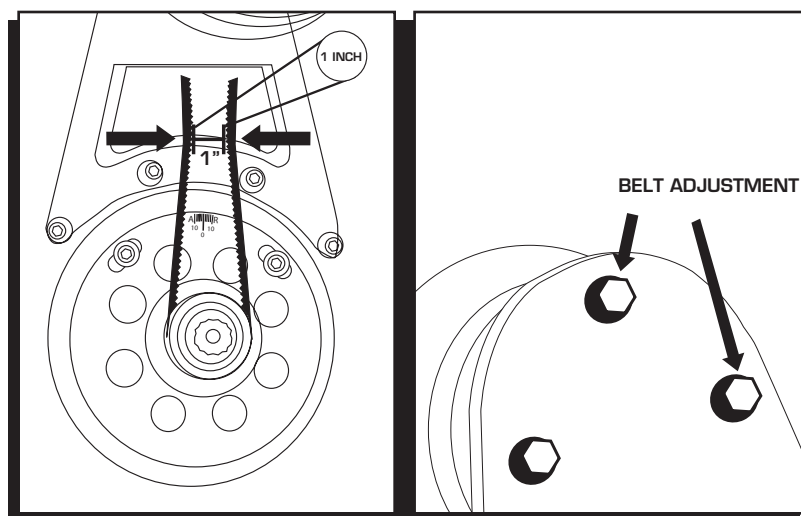

Figure 5 Adjusting the Belt Tension.
4. With the rotor tip aligned, adjust the tension of the distributor drive belt. This is adjusted with the three bolts on the back of the housing (Figure 5). Squeeze the belt in the middle until there is about one inch between the belt with light pressure.